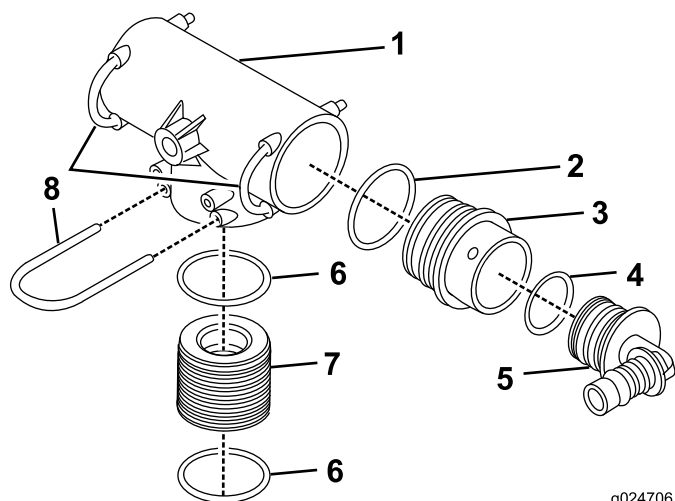

Figure 24
1. Assemble the tee mount assembly (Figure 24).